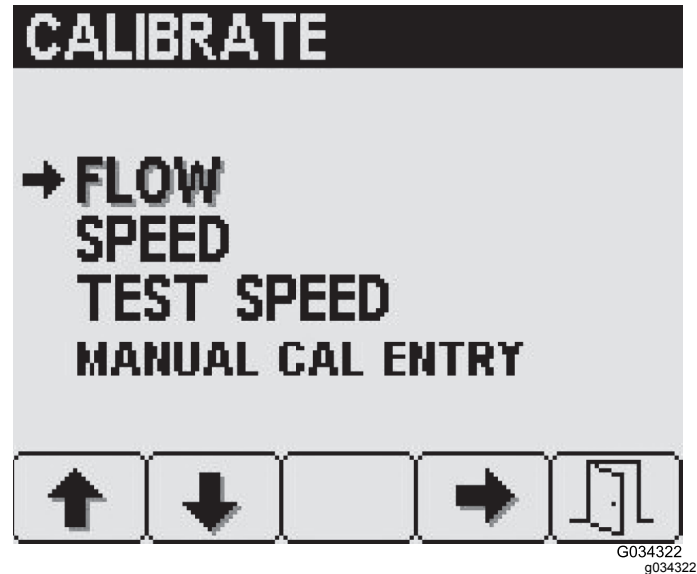

Figure 31
2. To access the Flow screen, press button 4 on the Calibrate screen (Figure 31) to select Flow.
2. To access the Speed screen, press button 2 on the Calibrate screen until you reach Speed, then press button 4 (Figure 31) to select Speed.